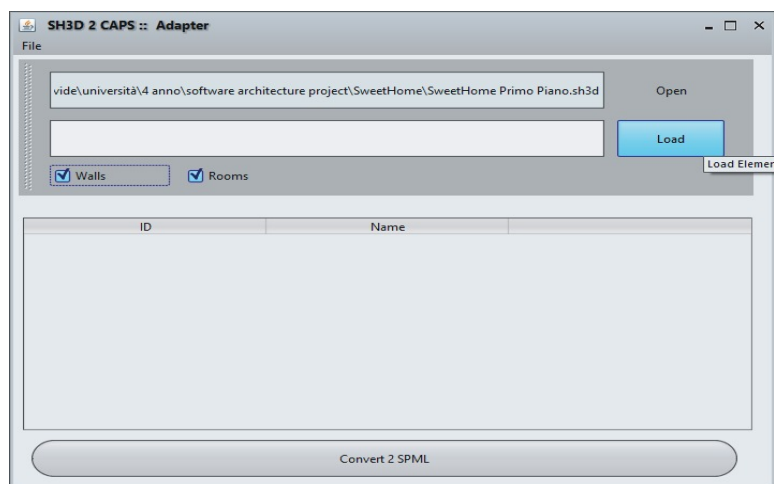
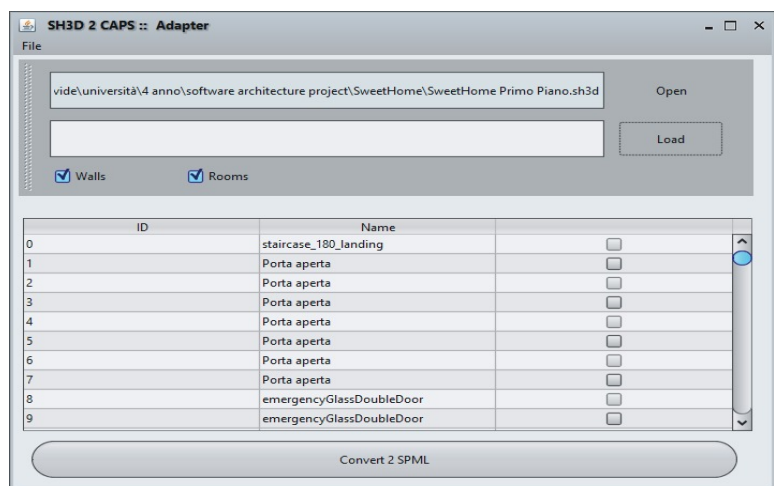

Figure 4.3: Ticking the checkboxes and clicking load
Figure 4.4: Result of the previous operations
- Open it, tick the **checkbox wall** and the **checkbox rooms** and click on load (figure 4.3 and figure 4.4);